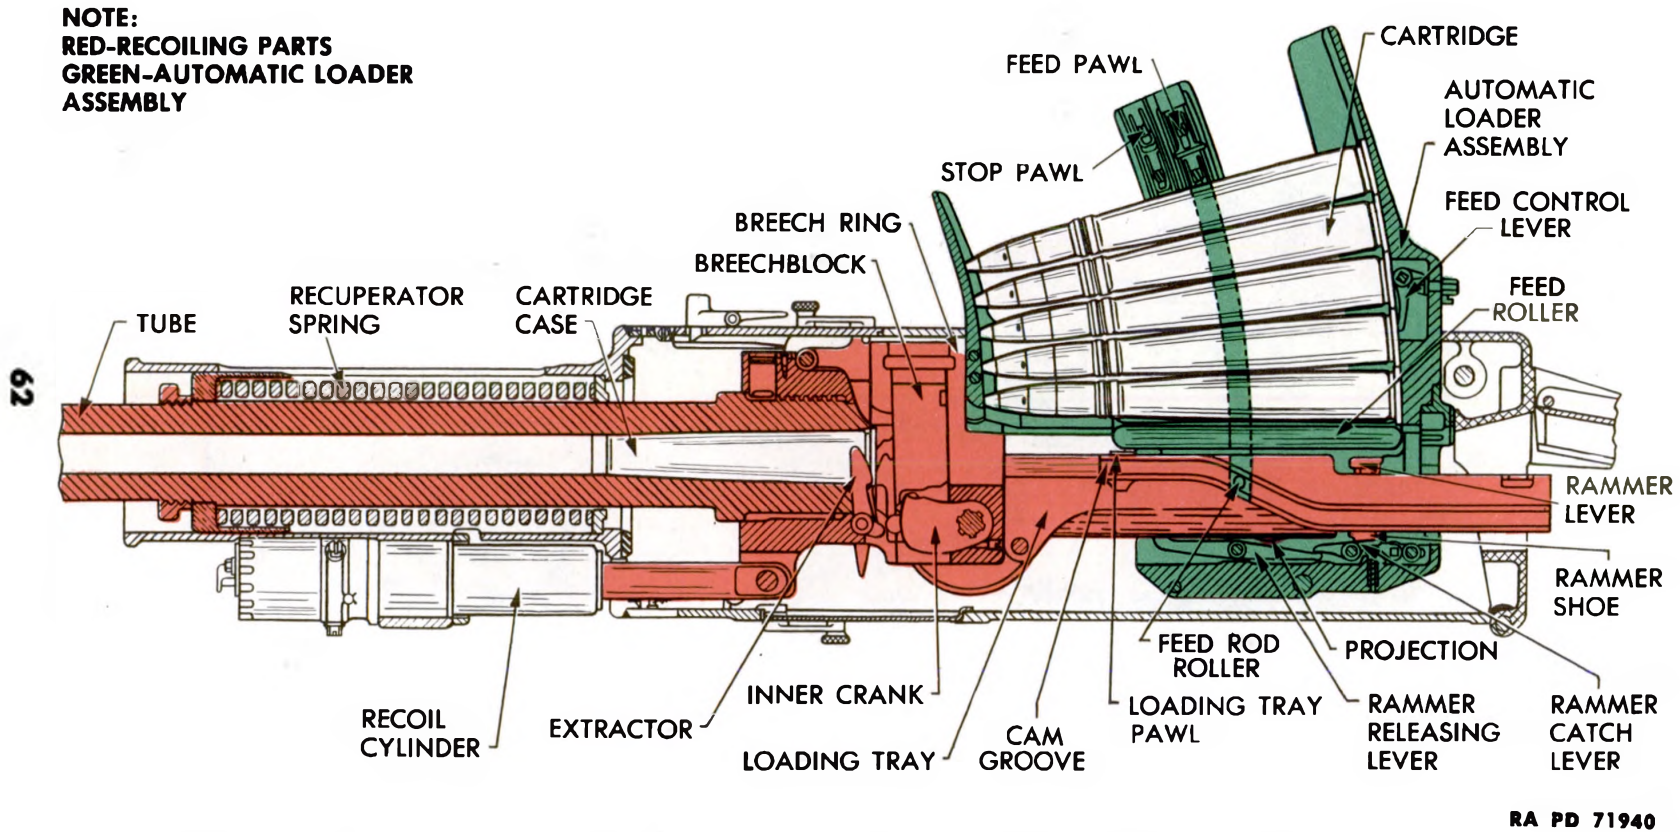
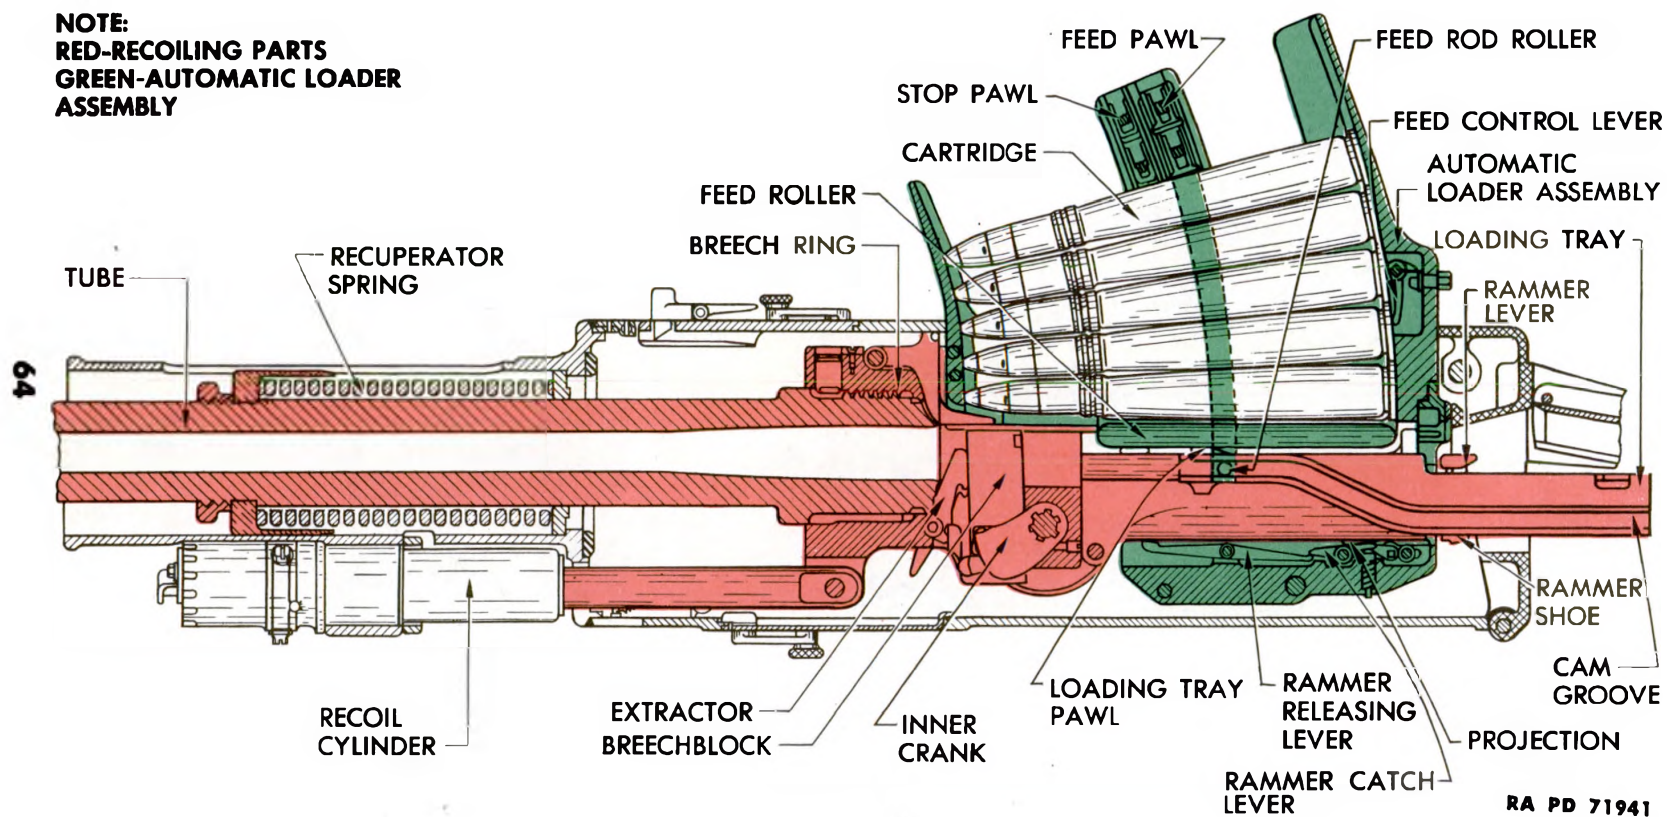

Figure 40 – Automatic Firing Cycle – Second Stage – Breechblock Being Lowered
Figure 41 — Automatic Firing Cycle — Third Stage — Breechblock Lowered, Cartridge Ejected
(3) As the loading tray moves backward, the cam grooves move past the rollers on the ends of the feed rods and the rollers enter the inclined portion of the grooves, raising the feed rods. The feed rods carry the feed pawls upward and over the next cartridge in the loader. The cartridges are prevented from being raised by the stop pawls. The loading tray pawls on the front of the loading tray are depressed by and pass under the lugs which extend sidewise from the feed roller catch heads.
(4) **SECOND STAGE.** Figure 40 shows the position of the parts when the breechblock has been lowered part of the way in its slides in the breech ring. The feed rods, holders, and pawls are nearing their extreme upward position. The rammer shoe is over the rammer catch lever. The loading tray is free of obstructions to permit ejecting the empty case because the rammer levers were forced to the sides of the tray by their cam grooves at the same time they released the cartridge in ramming it.
(5) As the breechblock descends, the projections at the sides of the front face of the breechblock strike the toes of the extractors. The extractors are rotated toward the rear and their lips catch the rim of the cartridge case and eject it. The empty case is thrown with considerable force backward along the loading tray, through the rear cover opening, against the cartridge case deflector, and into the cartridge chute. The case is carried down the chute, under the gun, and out in front of the weapon.
(6) **THIRD STAGE.** Figure 41 shows the position of the parts at the end of recoil. The empty cartridge case has been ejected. The breechblock is in its lowered position. The feed rod rollers are in the upper horizontal portion of the loading tray cam grooves and the feed rods are fully raised. Recoil has been stopped by the action of the recuperator spring and the recoil cylinder. The hook-shaped heads of the extractors are over the notched tops of the projections on the front face of the breechblock. The rammer shoe is to the rear of the rammer catch lever, and the loading tray pawls are to the rear of the feed roller catch heads.